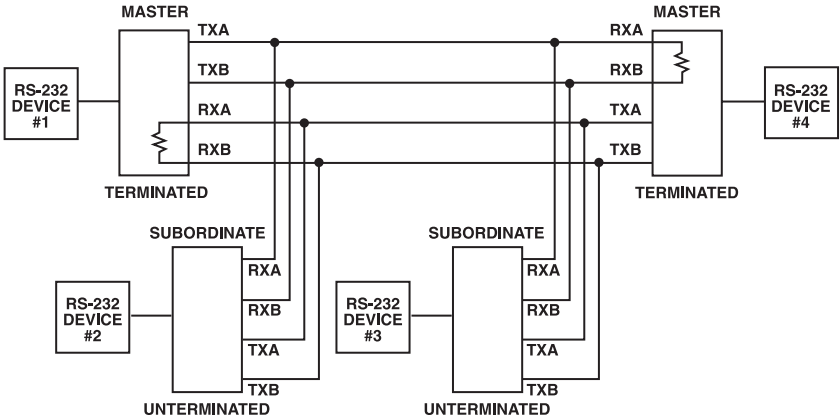
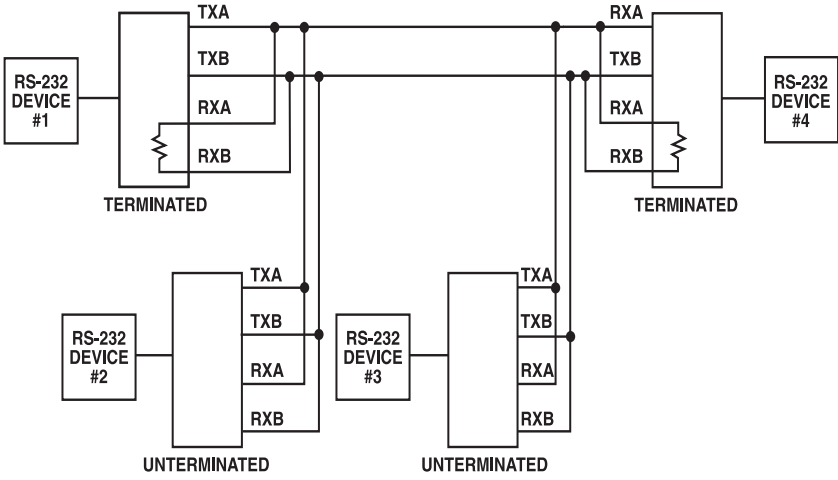

Figure 7. Multipoint, 4-Wire (Half-Duplex).
Figure 8. Multipoint, 2-Wire (Half-Duplex).
For multipoint applications, switch S2 should be in the “UNTERM” position on all the RS-232↔485/422 Converter devices in the network except for the two units at the extreme opposite locations on the line. The extreme opposite devices are the two devices that have the greatest cable length between them, which may not necessarily be the devices that are physically located the farthest apart. These two units should be set in the “TERM” position (see Figure 7). If any of the other RS-232↔485/422 Converters were configured as “terminated,” the amount of distortion could increase—possibly causing errors in the data being transmitted.
Figure 7 shows a typical multipoint, 4-wire, half-duplex connection. Figure 8 shows a typical multipoint, 2-wire, half-duplex connection. In the multipoint applications depicted in Figures 7 and 8, the devices at the extreme opposite ends of the installation are terminated by setting switch S2 to the TERM position. These devices are the two devices that have the greatest cable length between them, not necessarily the devices that are physically located the farthest apart. (See Figures 7 and 8.) A resistor shown in the circuit indicates that the termination resistor has been selected via switch S2. Note that although Figures 7 and 8 show only four RS-232↔485/422 Converter devices networked together, up to 64 units can be connected in the manner shown in Figure 7, and up to 32 units as shown in Figure 8.
5. Connect the RS-232↔485/422 Converters together via a 2-wire twisted-pair cable (see Figure 7).